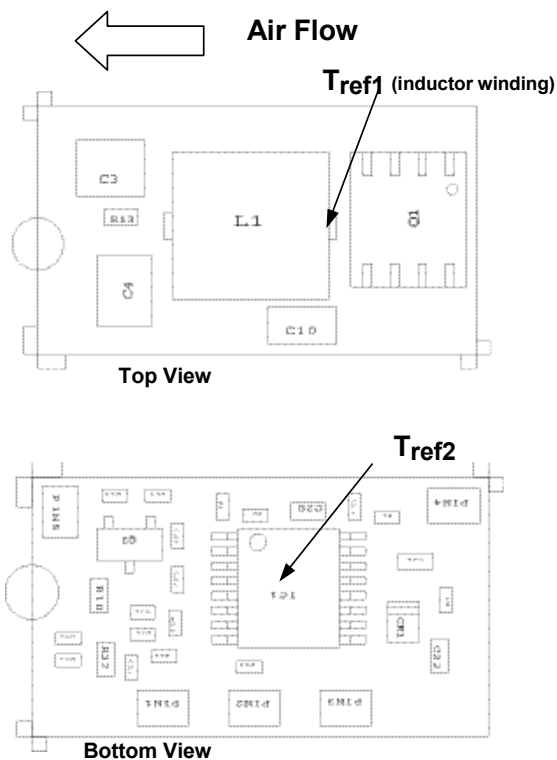
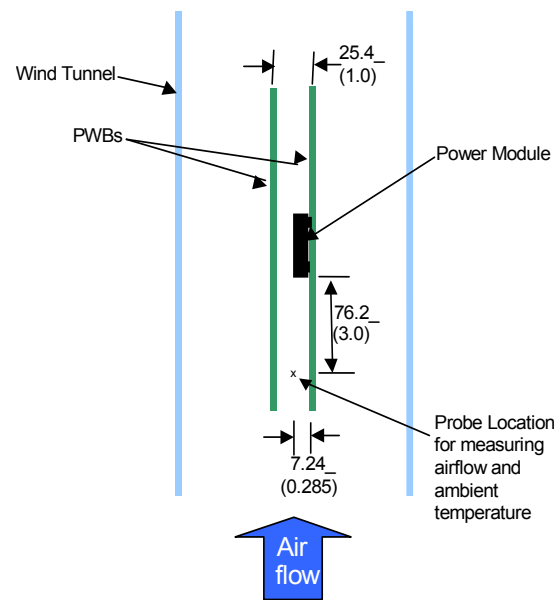

Figure 32. Tref Temperature measurement location.
Figure 33. Thermal Test Set-up.
To provide over temperature protection in a fault condition, the unit relies upon the thermal protection feature of the controller IC. The unit will shutdown if the thermal reference point  $T_{ref2}$ , (see Figure 33) exceeds 140°C (typical), but the thermal shutdown is not intended as a guarantee that the unit will survive temperatures beyond its rating. The module will automatically restarts after it cools down.
Considerations include ambient temperature, airflow, module power dissipation, and the need for increased reliability. A reduction in the operating temperature of the module will result in an increase in reliability. The thermal data presented here is based on physical measurements taken in a wind tunnel. The test set-up is shown in Figure 33. Note that the airflow is parallel to the long axis of the module as shown in figure 32. The derating data applies to airflow in either direction of the module's long axis.
The thermal reference point,  $T_{ref1}$  used in the specifications of thermal derating curves is shown in Figure 32. For reliable operation this temperature should not exceed 125°C.